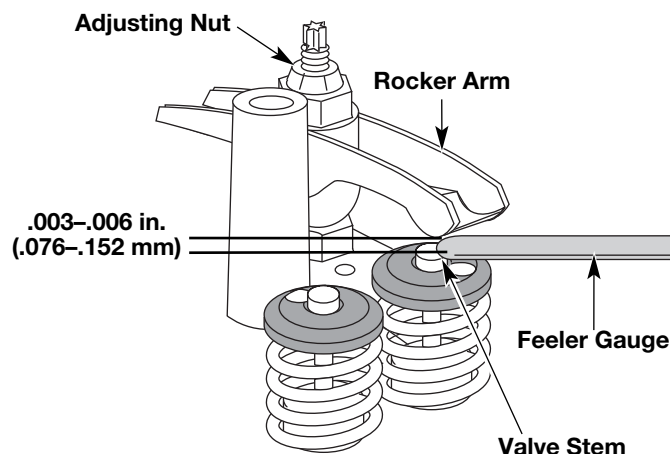

Fig. 44
- a. Turn the adjusting nut using a 5/16 inch (8 mm) wrench or nut driver (Fig. 44).